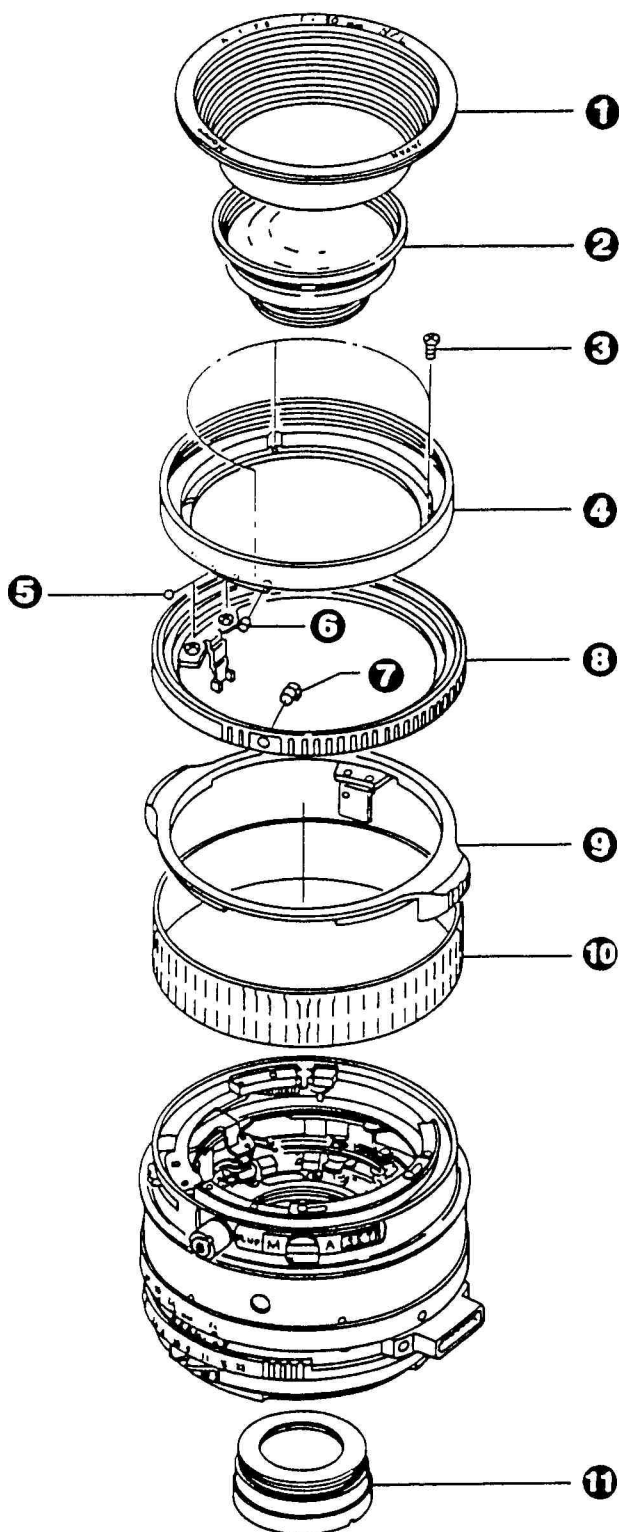

Fig.1
1. Disassemble in the order of numerical figures shown in small circles. (See Fig. 1.)